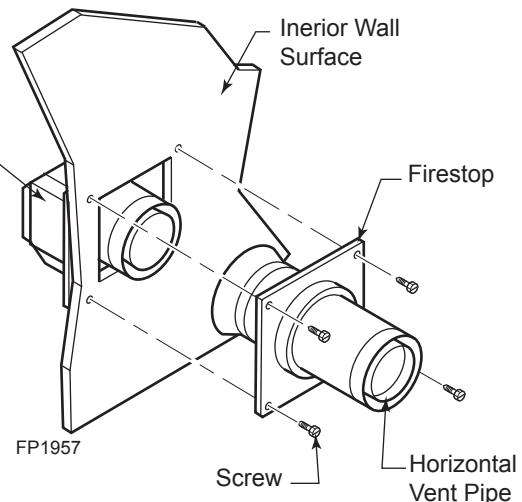

Figure 24 -
6. Slide the stop over the vent pipe before connecting the horizontal run to the vent cap. *Figure 24*
8. Slide the wall thimble against the interior wall surface and attach with screws. *Figure 24*
- The maximum number of 45° elbows permitted per side wall installation is two (2). These elbows can be installed in either the vertical or horizontal run.
- The maximum number of elbow degrees in a system is 270°. *Figure 24*